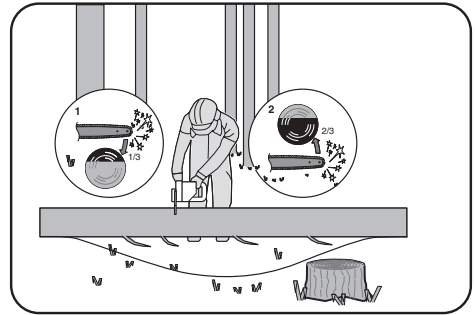

Figure 5
When the log is supported on both ends, as illustrated in Figure 5, cut 1/3 the diameter from the top (overbuck) (1). Then make the finished cut by